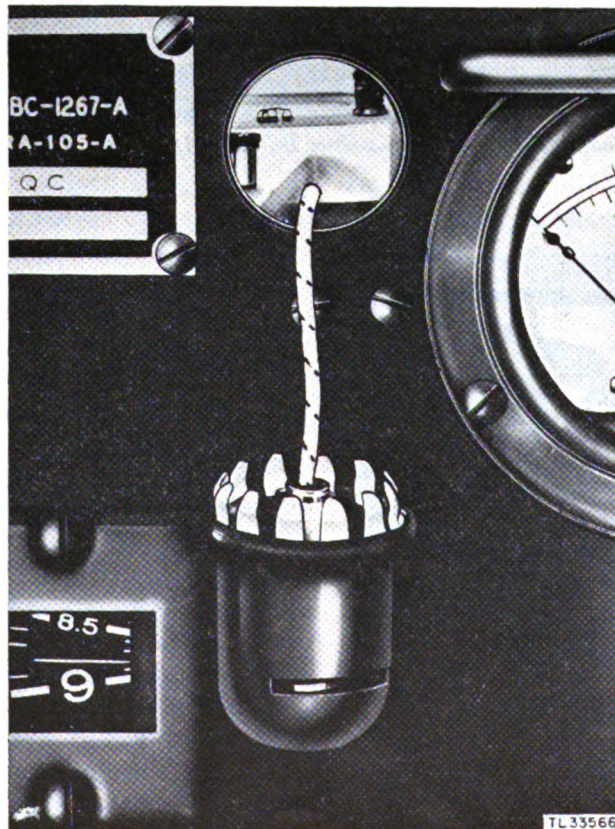

Figure 204. Radio Receiver and Transmitter BC-1267-A, meter light housing removed from panel.
*l.* METER PILOT LIGHT. The meter pilot light is in a special housing which is fastened to the front panel. Press down on the housing to remove it from the panel (see fig. 204). Grasp the wire lead in one hand and the housing in the other (see fig. 205). Exert a strong steady pull which will separate the external housing from the pilot light socket. Push the pilot light into the socket slightly and turn it counterclockwise until it releases. Assemble in reverse order.
*n.* R-F COILS. (1) In order to replace an r-f coil or core in the r-f tuner it is necessary to remove the tuner. It is possible to service the tuner for capacitor